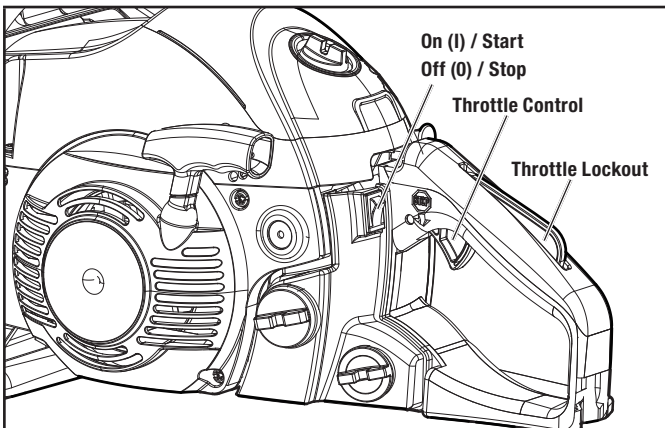
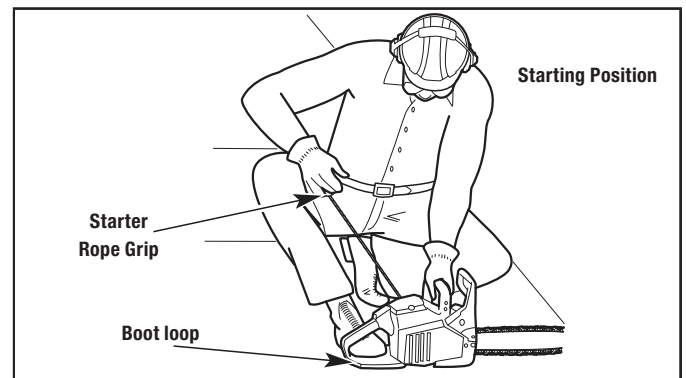

Figure 3
Figure 5
Avoid accidentally starting the chainsaw. To avoid serious injury, the operator and the chainsaw must be in a stable position when pulling the starter rope (Fig. 5).
4. DO NOT touch the throttle control (Fig. 3). Set the unit on a flat, level surface. Crouch in the starting position (Fig. 5) or bend over. Hold the front handle with the left hand. Hold the starter rope grip with the right hand. Insert the right foot into the boot loop to help hold the unit firmly in place.
2. To stop the engine, depress and hold the STOP switch (Fig. 3) to the stop position.